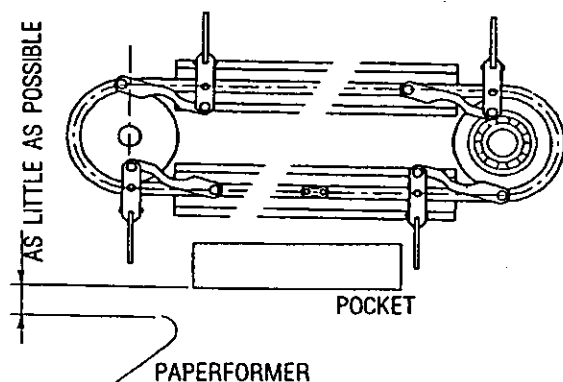

Fig. 15
- Vertical adjustment of the paper former at the pocket conveyor. See Fig. 15.